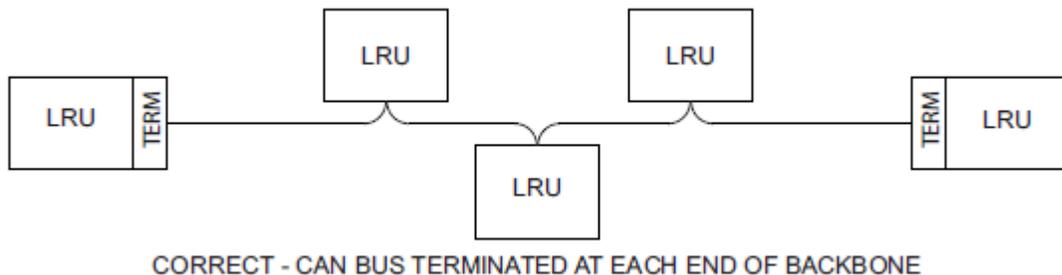

Figure 5-2 Correct CAN Bus Terminator Example
- 2) Ensure the CAN bus is terminated in only two locations, and only at the extreme ends of the CAN bus (Figure 5-2).